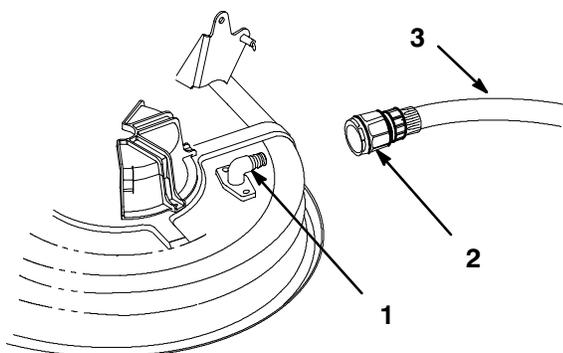

Figure 53
2. Attach coupling (not supplied) to mower washout fitting and turn water on high (Fig. 53).